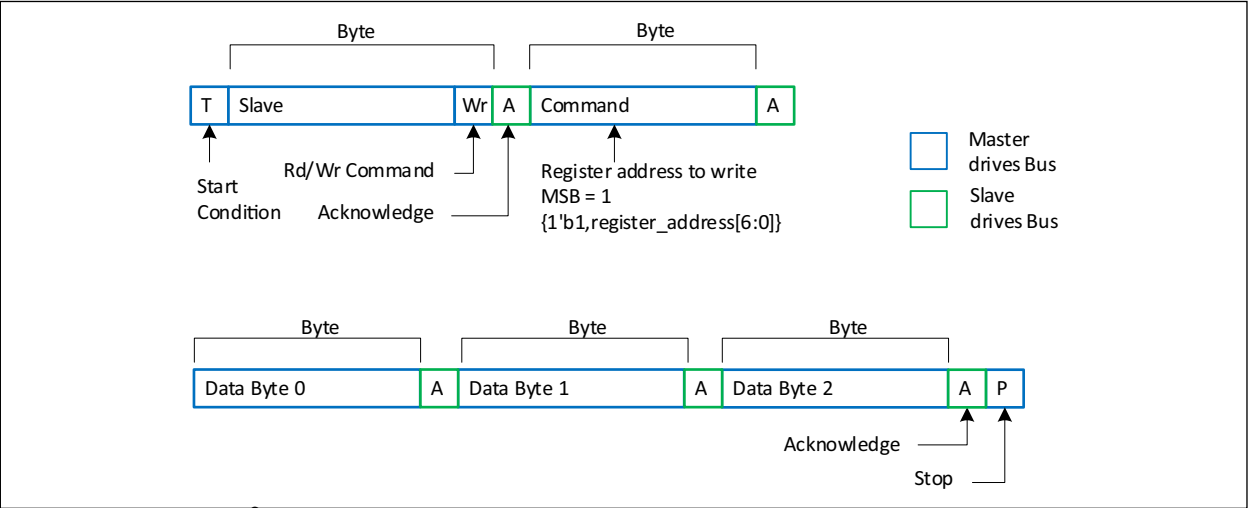

FIGURE 5-7: I2C Bus Burst Write.
**Burst Write.** Figure 5-7 illustrates Burst Write operation. The I2C server will send the Stop Condition after the last data byte.